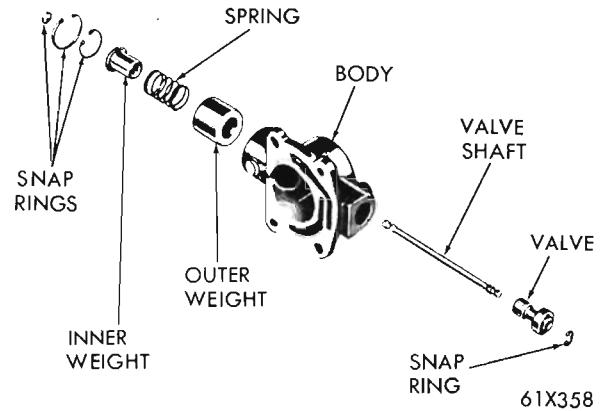

Fig. 55—Governor Assembly (Disassembled)
(3) Remove the large snap ring from weight end of the governor body, lift out the governor weight assembly.
(4) Remove the snap ring from inside the governor weight, remove inner weight and spring from the outer weight. Figure 55 shows a disassembled view of the governor assembly.
(5) Remove the snap ring from behind the governor body, then slide the governor and support assembly off the output shaft. If necessary remove the four bolts and separate governor body from the support.